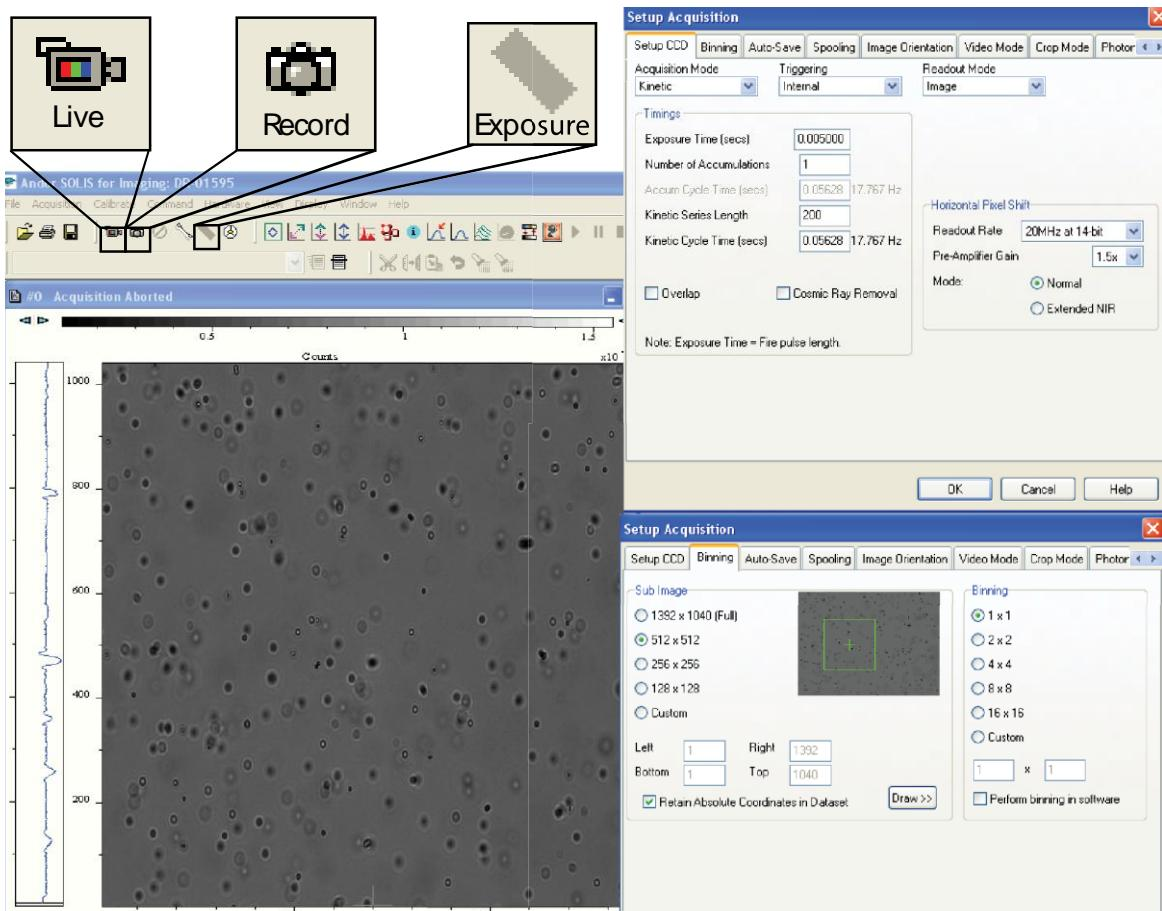

Figure 7. Andor Solis program for data acquisition. Bright field image of $0.97 \mu\text{m}$ beads.
- 6) Set up the exposure time to 0.05s *by pressing exposure button (Figure 7).